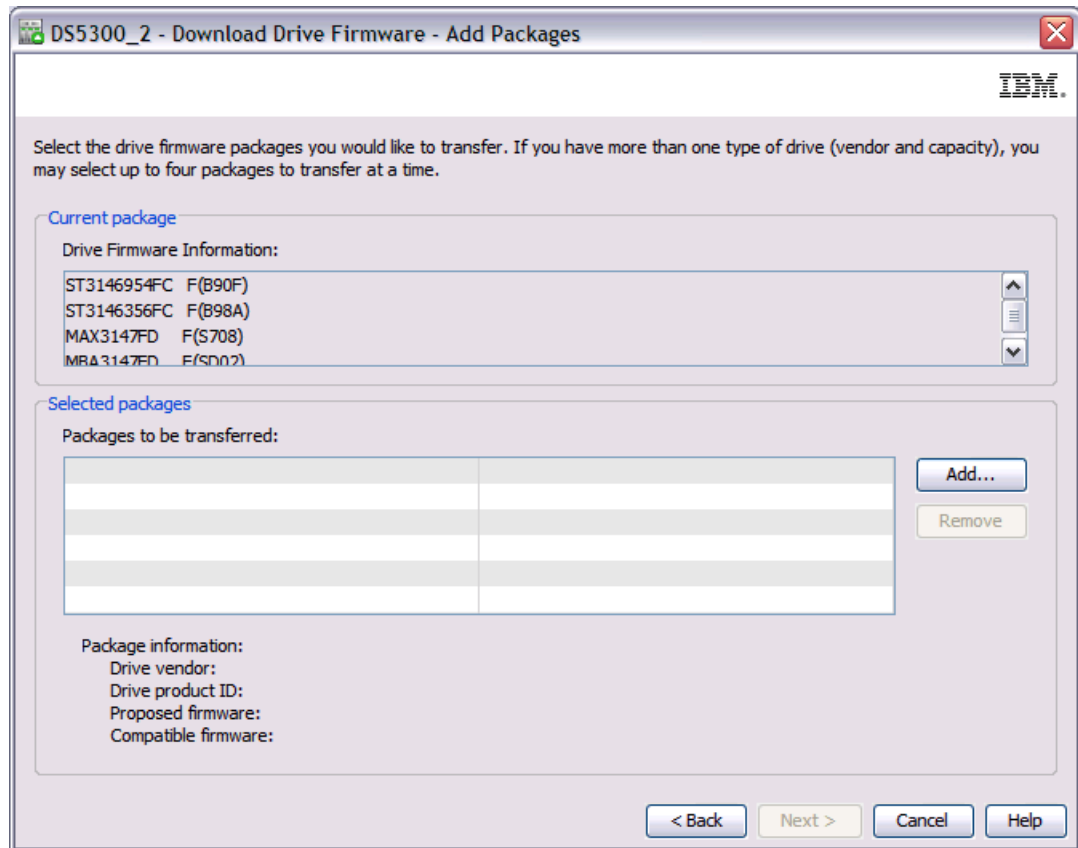

Figure 5-22 Selecting drive to be upgraded
3. The window shown in Figure 5-22 opens, which shows all the types of drives you have with the current firmware level. Click **Add** to choose the firmware package.